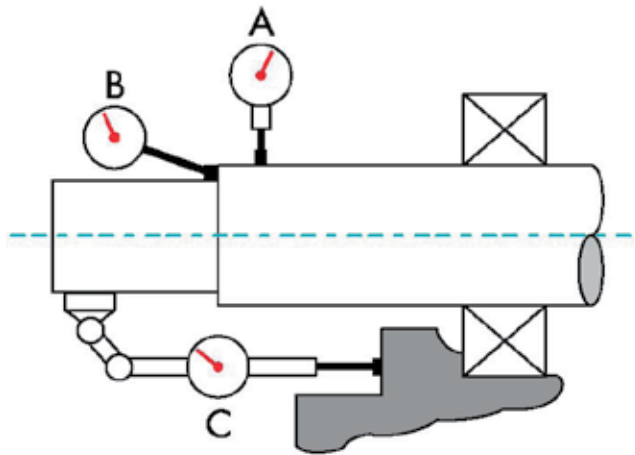

fig 4.2
- Gauge the shaft and the seal seat in accordance to fig 4.2.